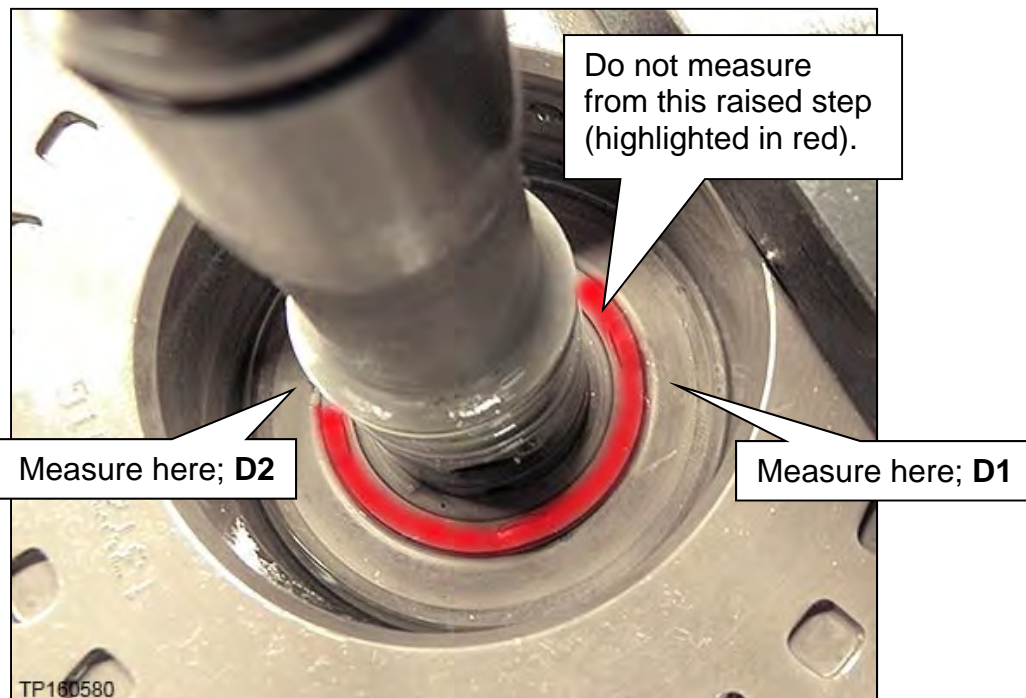

Figure 135
**NOTE:** Do not measure from the clutch assembly bore shown in red (Figure 135).